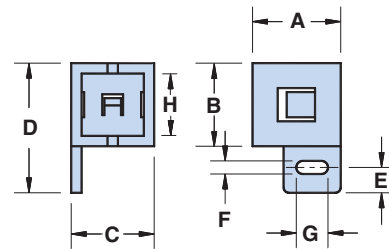

Figure 3
- Figure 3 clips are a polypropylene material RoHS compliant, with a flammability rating of UL94-V0.